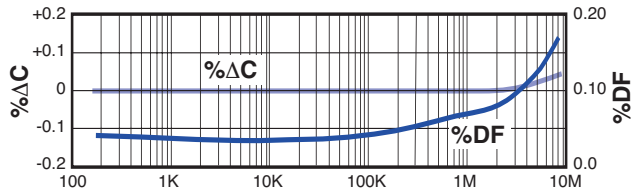

Figure 8. Frequency - Hertz
**Effect of Frequency:** Frequency affects both capacitance and dissipation factor. Typical curves for KEMET multilayer ceramic capacitors are shown in Figures 8 and 9.